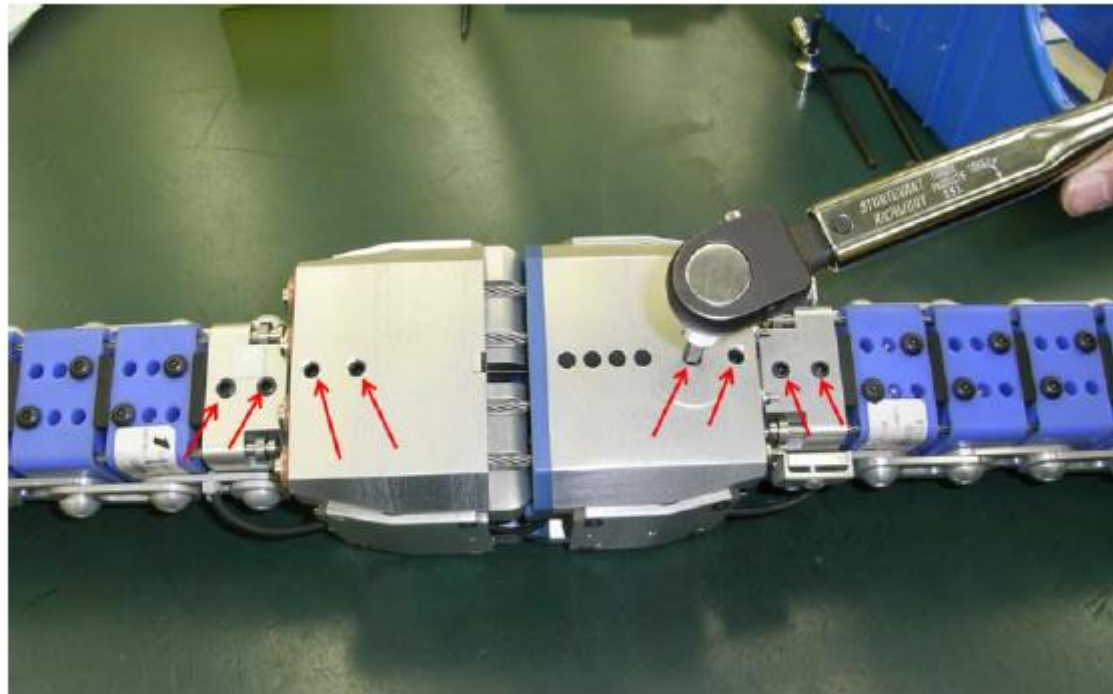

Figure 88 . Check screws with 8 Nm torque
- **Step 2:** Check the eight M8 set screws shown in Figure 88 are tightened to 8 Nm